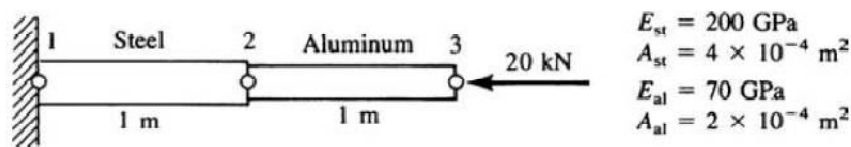

Figure 1
- For the bar assemblage shown in Figure 1, determine (a) the nodal displacements, (b) the forces/reaction in each element. Use the direct stiffness method for this problem.